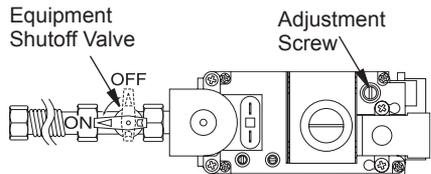

Figure 65 - Turning Equipment Shutoff Valve to the OFF Position
5. Turn equipment shutoff valve clockwise  to the OFF position (see Figure 65). Do not force.
6. Wait five (5) minutes to clear out any gas. Then smell for gas, including near the floor. If you smell gas, STOP! Follow "B" in the safety information on page 32. If you don't smell gas go to the next step.